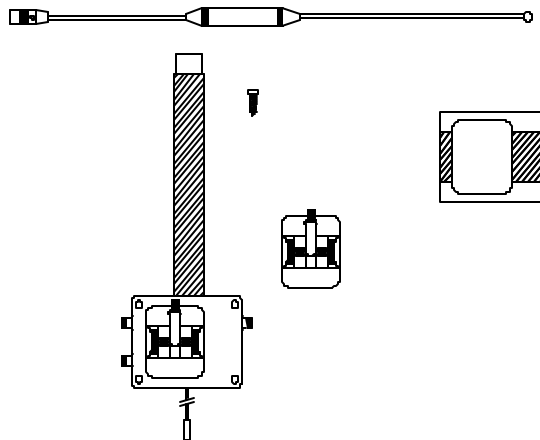

Figure 1 –Parts
1. **Part List:** The package includes an antenna, coupler, cables, mounting hardware, antenna positioning template and connectors for the two way-radio. Use only the components supplied with the antenna (Refer to Figure 1).